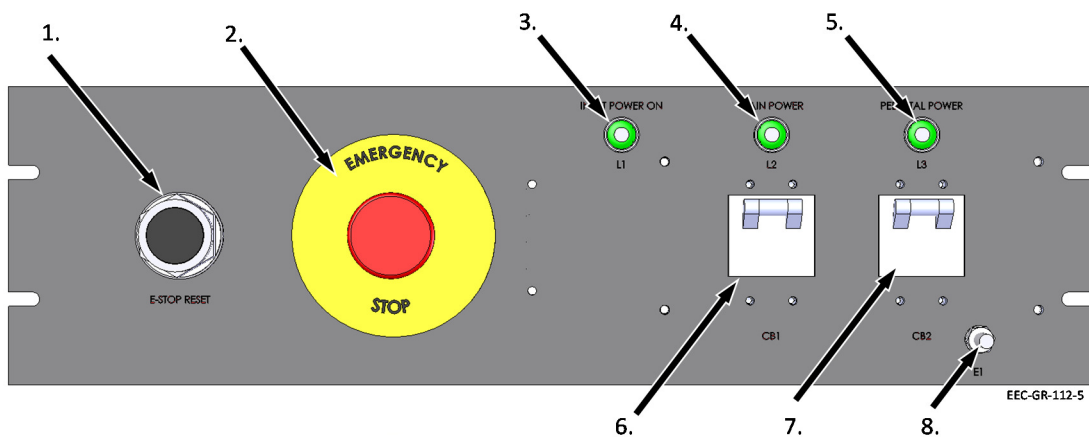

Figure 70. Emergency Stop Panel
1. On the Emergency Stop Panel (see **Figure 70, Point 6**), ensure the Main Breaker (CB1) is in the [ON] position.
2. On the Emergency Stop Panel (see **Figure 70, Point 7**), ensure the Pedestal Breaker (CB2) is in the [ON] position.
5. Press and hold the E-Stop Reset Button (see **Figure 70, Point 1**) for 2-3 seconds, then release.
6. Ensure the power to the system is active by checking the various components in the Control Cabinet and verifying the lights (see **Figure 70, Point 3, 4, and 5**) are illuminated.
2. On the Emergency Stop Panel (see **Figure 70, Point 7**), switch the Pedestal Breaker (CB2) to the [OFF] position.
3. On the Emergency Stop Panel (see **Figure 70, Point 6**), switch the Main Breaker (CB1) to the [OFF] position.
1. Press the Pedestal Emergency Stop Button (see **Figure 56, Point 2**) or the Main System Emergency Stop Button (see **Figure 70, Point 2**).
2. On the Emergency Stop Panel (see **Figure 70, Point 6**), switch the Main Breaker (CB1) to the OFF Position.